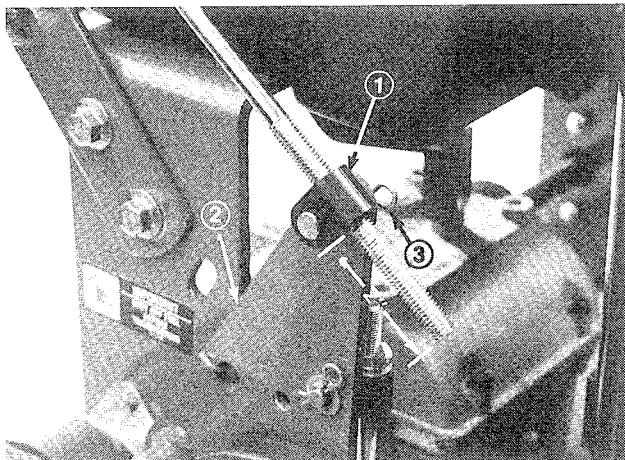
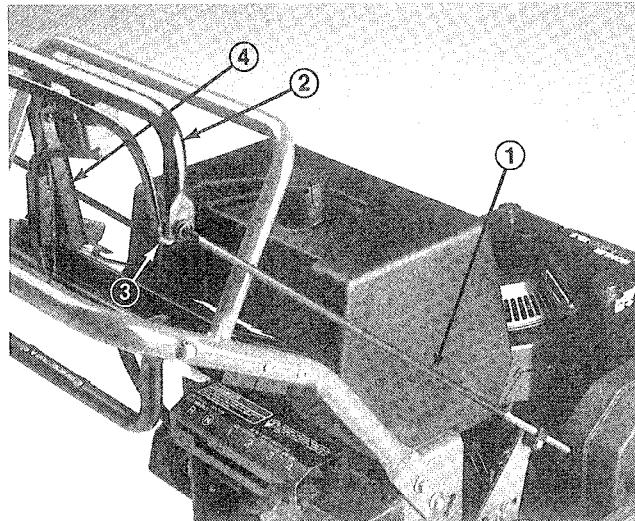

Figure 9
Figure 10
1. Thread a rod fitting onto each control rod approximately 2" (Fig. 9) or until upper control bar (Fig. 10) is perpendicular to ground.
2. Mount rod fitting ends to mounting holes in idler brackets (from outside) with clevis pins, washers and hairpin cotters (Fig. 9).
3. Check gap between control bar and upper handle when fully engaging wheel belts. Gap should be approximately 1 to 1-1/4" (Fig. 10).
5. Brake rods should be adjusted so parking brake lever can be swung into a snug position against the upper handle while pulling back on upper control bar (Fig. 10).